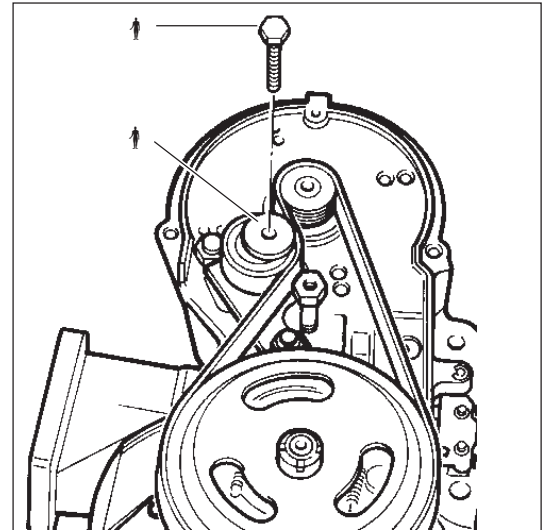

Fig. V3-1a
- b) Unscrew bolt (item 1) and washer (item 2). Fig. V3-1a